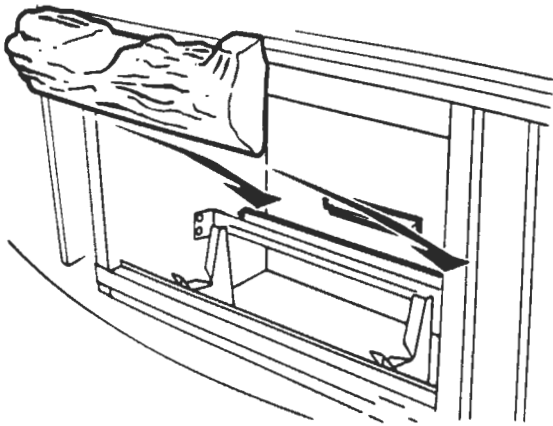

Fig. 9 REAR LOG LOCATION
- 7.1. Place the rear log (the log with only one short stub) in the retaining cradle behind the rear burner tube with its back against the firebox back wall (*fig. 9*). The short stub should be at the top right of the log. Center the log so that the gap to the firebox walls is the same at each side.